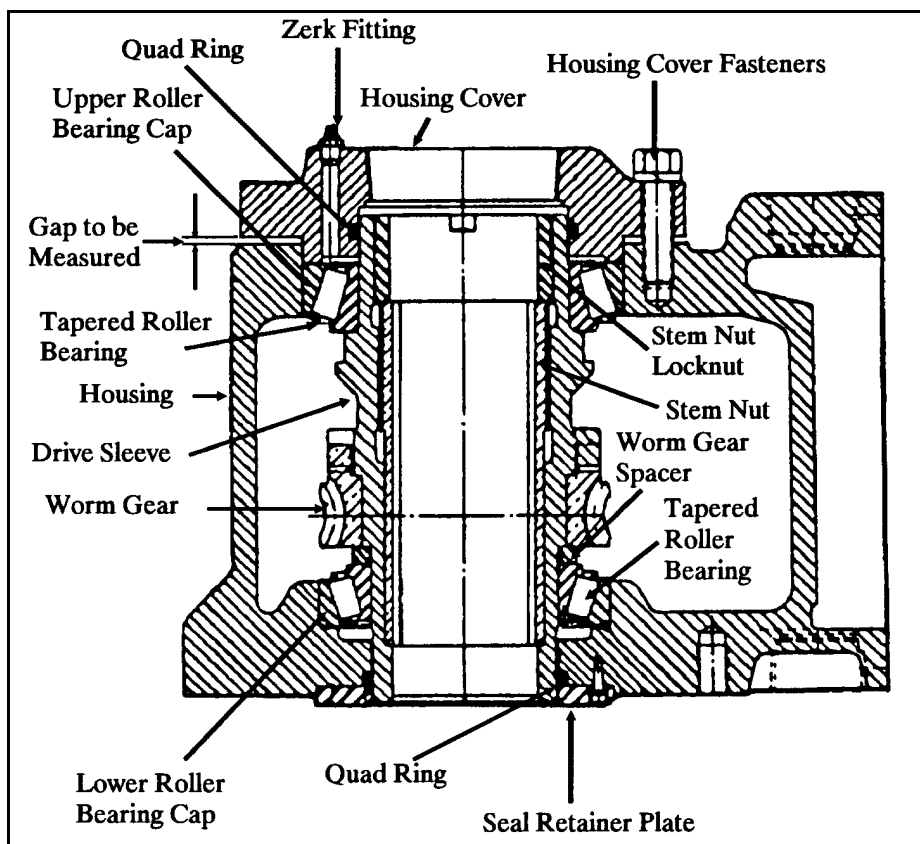

Figure 6-10 Housing Cross-Sectional View
7. Housing Cover Removal Refer to Figure 6-10
9. Seal Retainer Plate Removal Refer to Figure 6-10
14. Drive Sleeve Bearing Cup Replacement Refer to Figure 6-10
15. House Grease Removal and Cleaning Refer to Figure 6-10